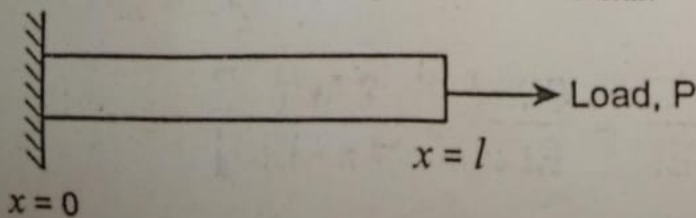

Figure.1 A bar of uniform cross-section
- A bar of uniform cross-section is clamped at one end and left free at the other end and it is subjected to a load P as shown in Figure.1. Determine the displacement and stress in a bar by using three terms polynomial. Compare with exact solutions. [20]